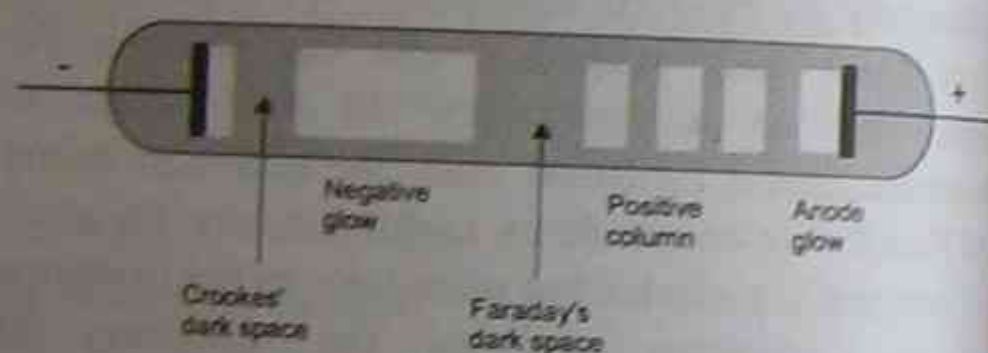

Figure 3.3 Gas discharge
- 2 At a pressure of ~ 0.1 – 0.2 kPa the positive glow extends along the tube, taking up approximately half its length. Between the positive glow and the negative glow is an area called the *Faraday dark space* (Figure 3.3).